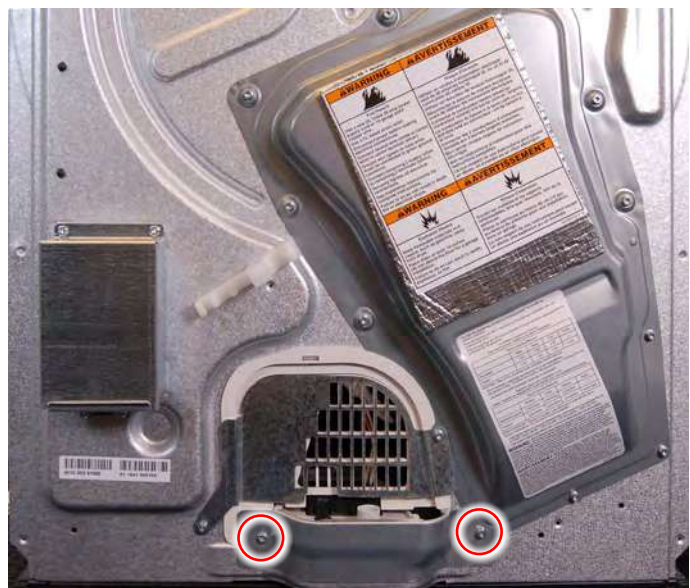

Figure 3
11. Use a T20 Torx driver to remove the two (2) screws securing sump bracket to the back panel (as illustrated in Figure 3). Remove sump bracket and set aside.